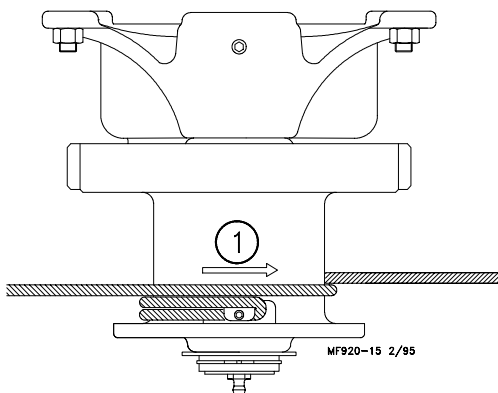

Figure 32. Power Winch Drum Rotation
5. Turn the winch drum one full revolution. Guide the cable against the flange at the bottom of the winch drum. The cable must not wrap over itself on the drum, but should be wrapped as close as possible to each previous wrap. See Figure 32.